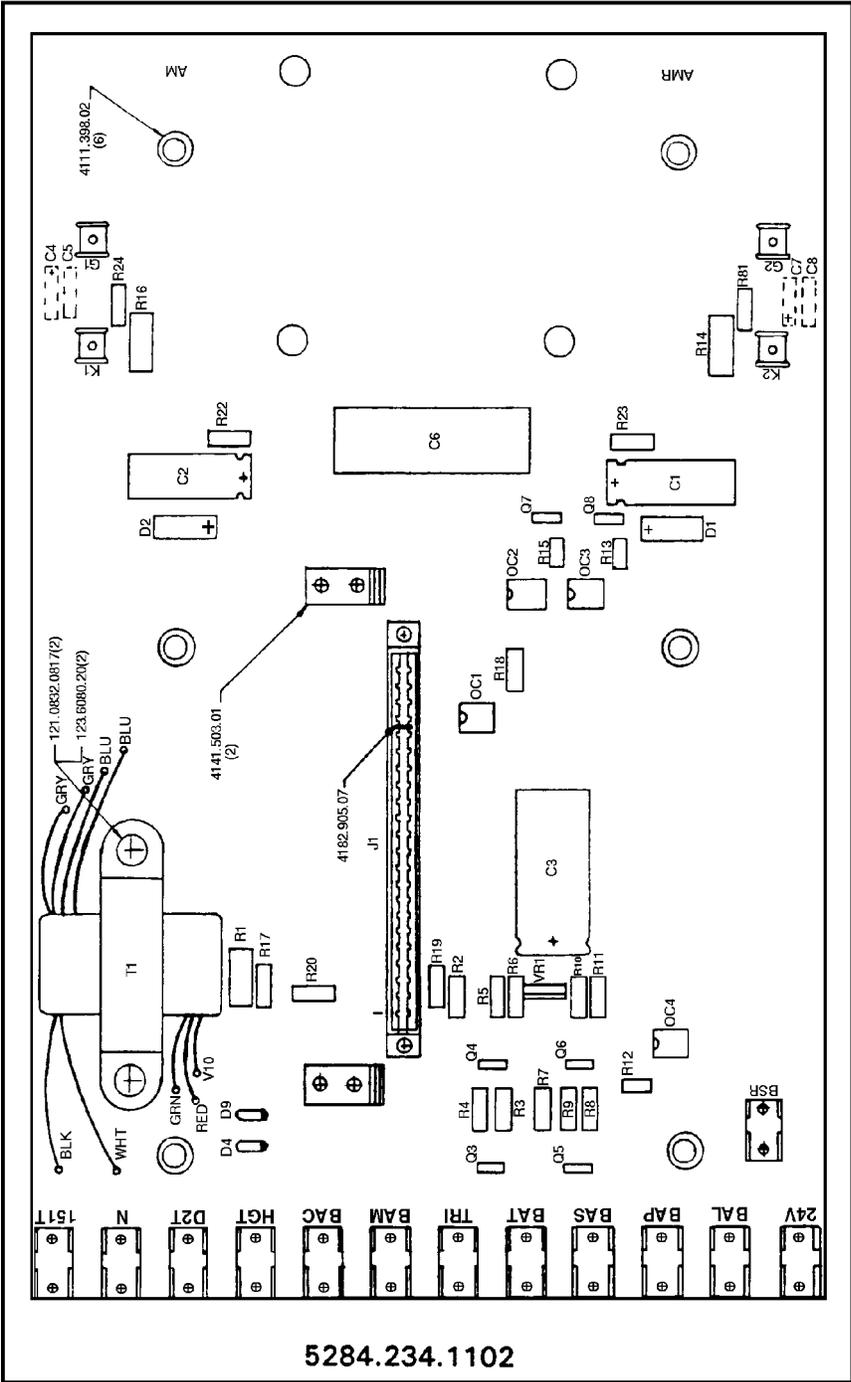

Figure 3-70
(3) Connect the external trigger input of the scope to terminal BAM on the SCR Impulse Timer PCB (5284.234.1102). (See Figure 3-70.)
(4) Set channel 1 of the scope to display 5 volts/division and set channel 2 of the scope to 10 volts/division and 200 msec/division, horizontal.
(5) Turn the MAINS on and select 200L mA station, <80 kVp> and <1 second>.